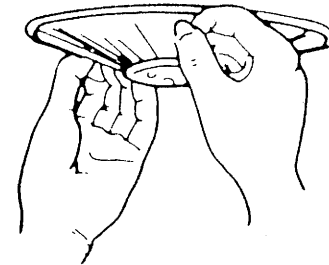
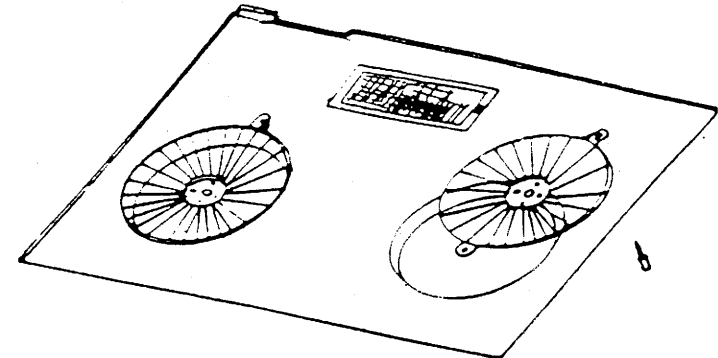

fig. 1a
fig. 1b
- (1) Facing the cookerhood, turn the screw by hand to loosen it.
- (2) Hold the fan grille (fig. 1a) by fingers and pull lightly towards yourself. (fig. 1b) The fan grille would be dismantled without using any screw driver.